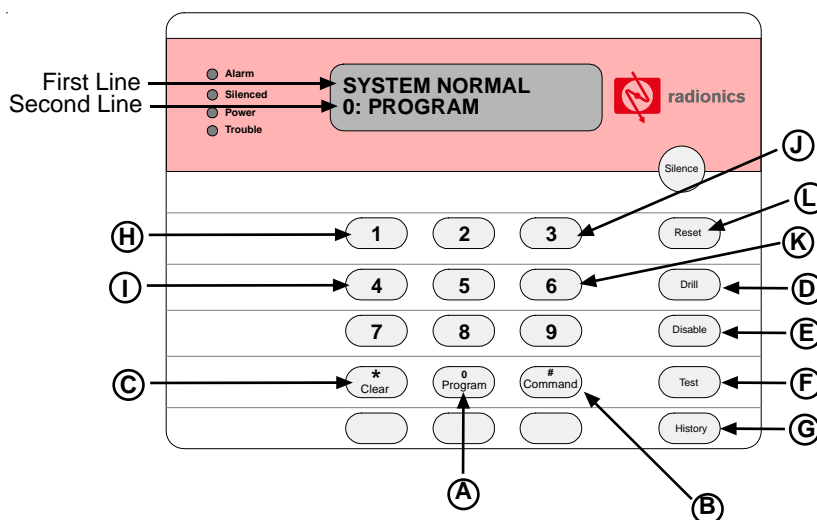

Figure 17: D7033 Keypad Key Descriptions
See Figure 15 to connect the D7033 to the D9068. See Figure 17 for a description of D7033 Keypad key functions.
- D) **[Drill] Key:** Advances to the next programmable feature or character position. See Figure 17.
- E) **[Disable] Key:** Moves back to the previous programmable feature or character position. See Figure 17.
- L) **[Reset] Key:** Initiates a manual reset of the D9068. See Section 6.5 "Reset" for more information. Clears the character selected by the cursor when pressed. See Figure 17.